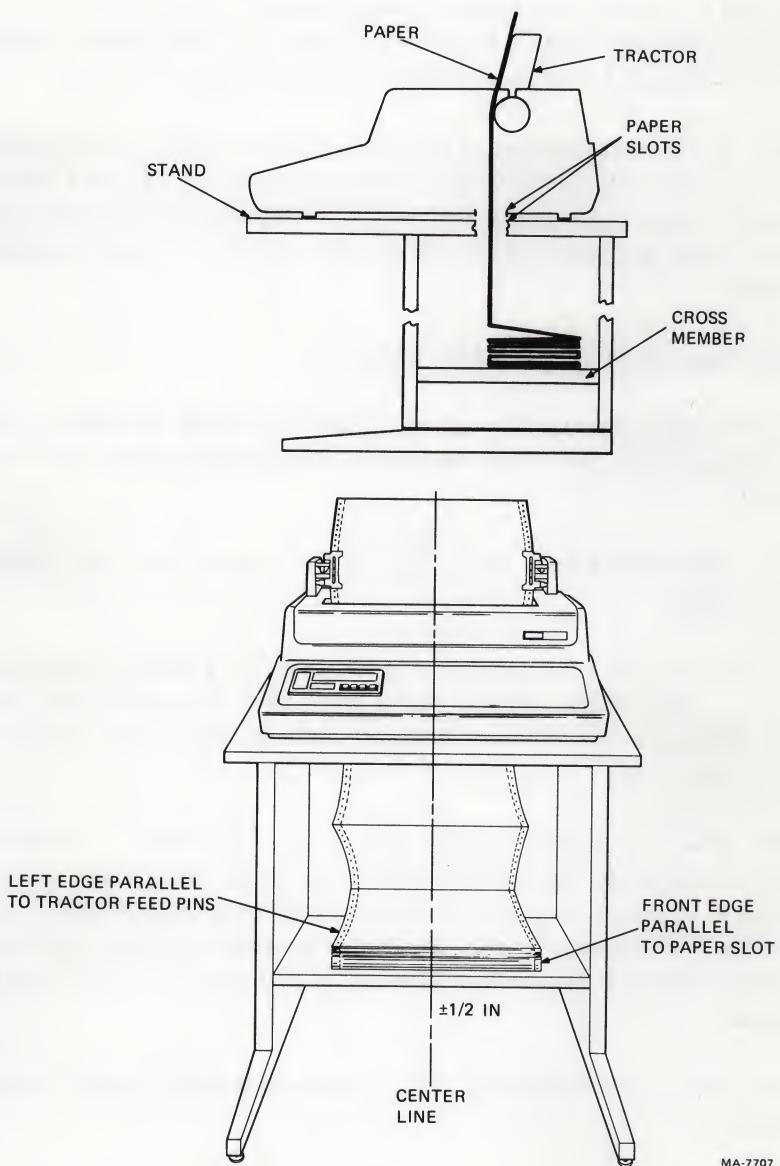

Figure 2-9 Tractor Feed Paper Path (With Printer Stand)
- a. If you are using the printer stand, place the paper/forms on the crossmember between the legs of the printer stand (Figure 2-9).
- a. If you are using the printer stand, align the paper parallel to the bottom paper slot and route the paper through the paper slot (Figure 2-9).